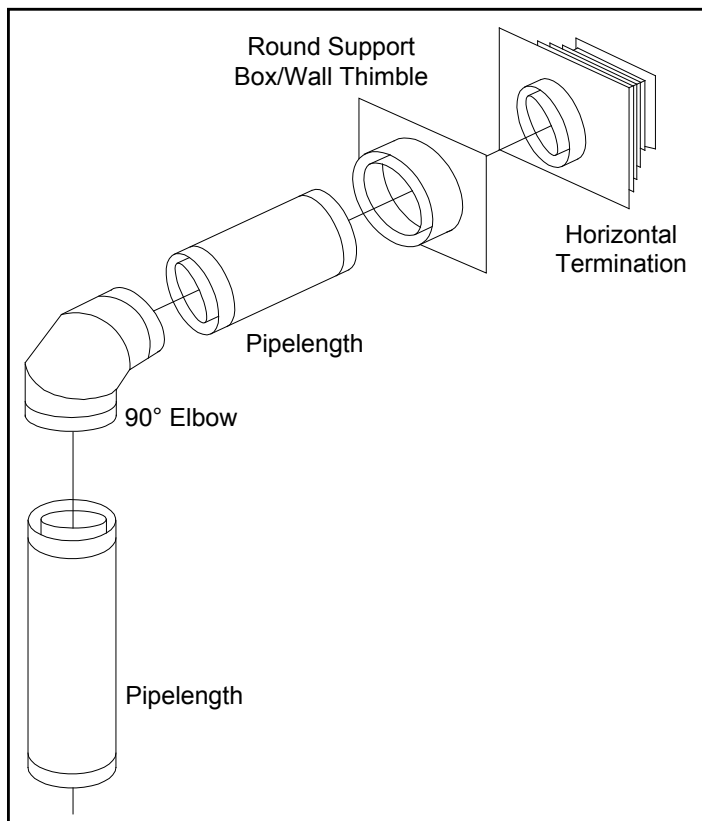

Figure 15: Common Horizontal Installation.
There are three (3) basic types of Direct Vent System installations. The three (3) types of installations are shown in Figures 15 through 17.